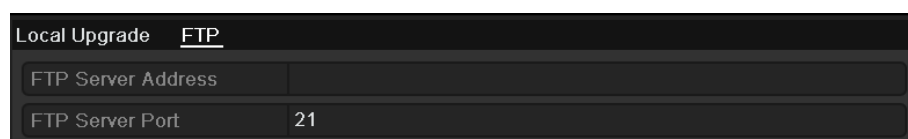

Figure 12. 14 FTP Upgrade Interface
2. Click the **FTP** tab to enter the local upgrade interface, as shown in Figure 12. 14.